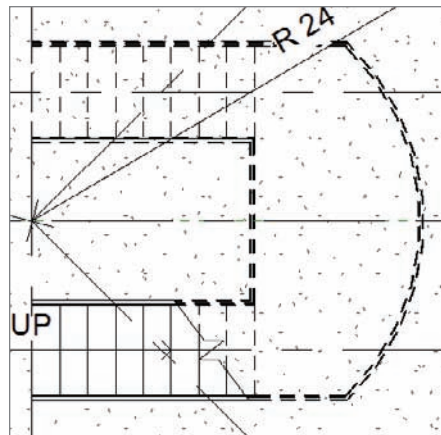

FIGURE 10.12 The stairs as displayed in plan
4. To complete the stairs, just click Finish Edit Mode on the Modify | Create Stairs Sketch tab. Your stairs should look like Figure 10.12.